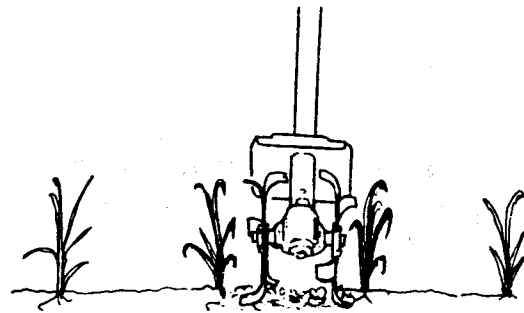

Figure 12
4. These models can work even in narrow distance between two plants as shown in figure 12.